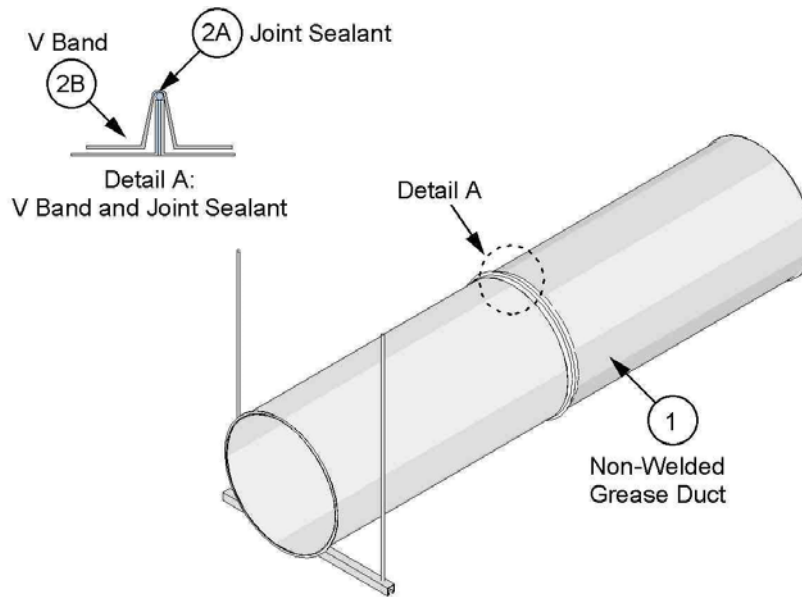

Figure 1. Non-Welded Grease Duct Model No. TDK
- B. **V BAND** – Use the supplied V band (see Figure 1). Place the loose V band, filled with sealant (Item 2A), over one of the duct flanges. Join to the other duct flange with the continuous bead of sealant (Item 2A) and rotate slightly to ensure complete coverage of sealant (Item 2A) on flanges. Ensure that the flanges are located within the V band and that the V band hardware is not at the bottom side of a horizontal